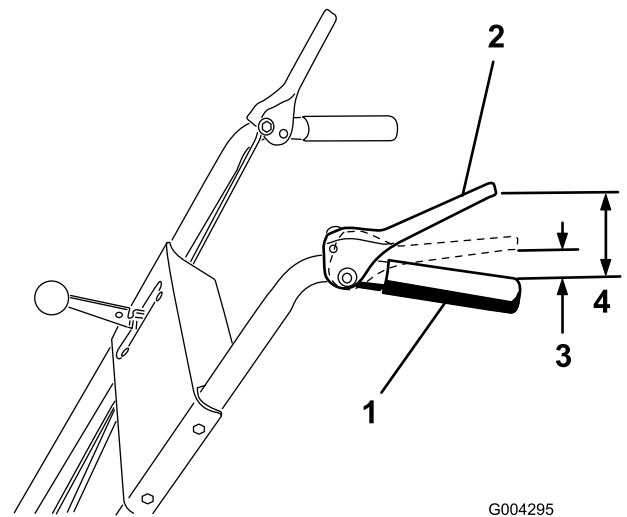

Figure 7
2. Adjust the 2 flange nuts up or down on the traction rod until the distance between the top of the handgrip and the bottom of the traction control lever is approximately 4-1/2 inches (11.4 cm) as shown in Figure 7.
Note: The adjustment is correct when the wheels stop rolling backward and the distance between the top of the handgrip and the bottom of the traction control lever is 1 to 2 inches (3 to 5 cm) as shown in Figure 7.